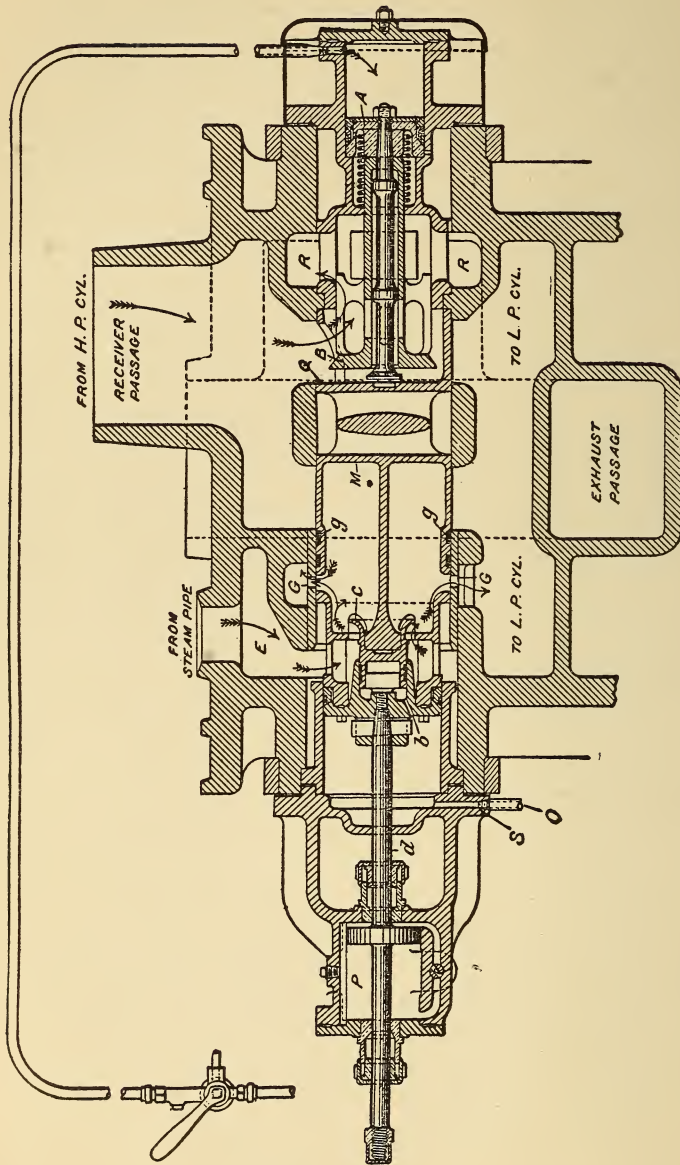

FIG. 69.—INTERCEPTING VALVE OF THE SCHENECTADY COMPOUND LOCOMOTIVE WHEN WORKING AS A SIMPLE ENGINE.
*Q. What will be the result if the intercepting valve of a Schenectady compound should become stuck in the closed position, shown in Fig. 69, and what should be done?*
The remedy would be to open the emergency or starting valve in the cab and thus admit steam back of the piston *A*, moving it to the left as in Fig. 69, and thus opening the valve *B*, through which the exhaust from the high-pressure cylinder will be permitted to escape from the receiver into the atmosphere.
If running it is well to keep the throttle open so as to hold the valve in one position as far as possible. At the first stop the cap of the valve casing should be removed at *S*, and an examination made of the fracture. If the key only has come out or been broken it may be put back or replaced with another. If the rod is broken the intercepting valve itself may be put in either the simple or compound positions as in Figs. 69 or 70. If in the former it may be held closed by putting a block of wood between the back end of the valve and the inside of the cap and bolting the cap home.
*A.* This valve is shown in section in Figs. 69 and 70. A leak may exist between the valve *B* and its seat, allowing steam to escape from the receiver into the direct exhaust. This lowers the receiver pressure, tending to decrease the work of the low-pressure cylinder and increase that of the high. The leak, however, is not apt to be serious, and will, therefore, have an inappreciable effect upon the working of the engine.
the position shown in Fig. 69, and live steam will be admitted to the low-pressure cylinder through the reducing valve. The engine can thus be run to destination as a single expansion engine.